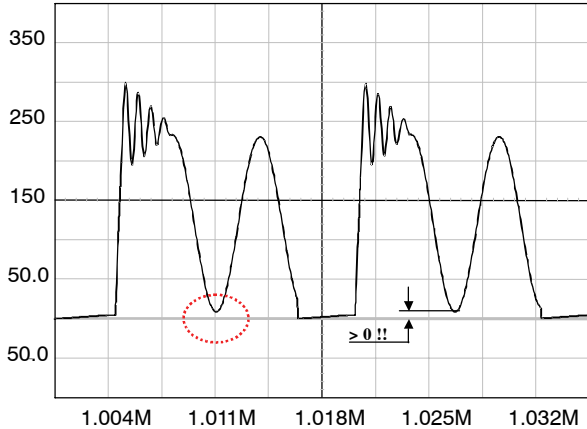

Figure 42. The reflected voltage shall always be greater than the minimum input voltage to avoid the forward biasing of the MOSFET body–diode.
1. The lateral MOSFET body–diode shall never be forward biased, either during startup (because of a large leakage inductance) or in normal operation as shown by Figure 42. This condition sets the maximum voltage that can be reflected during  $t_{off}$ .